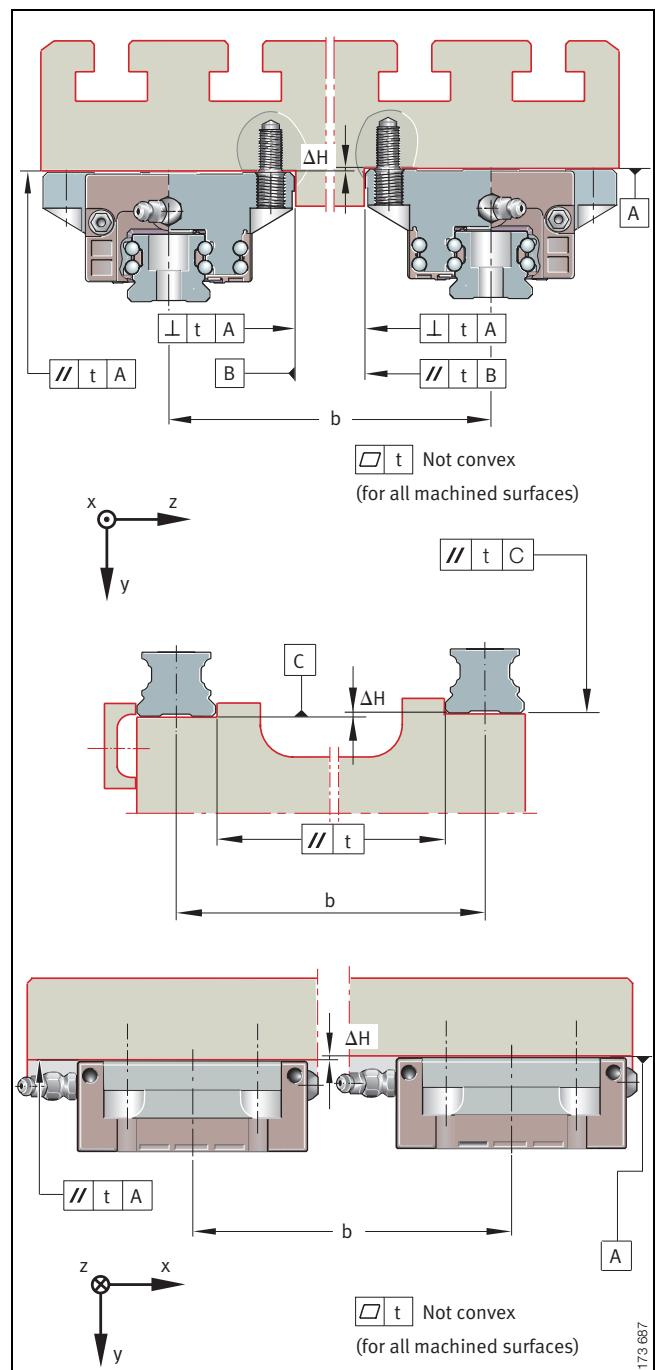

Figure 6 · Tolerances of mounting surfaces and parallelism of mounted guideways
- The tolerances in Figure 6 and Table 5 must be adhered to
The permissible values for  $\Delta H$  (Figure 6) are given by the formula below. If larger deviations are present, please consult the Schaeffler engineering service.
For guideways arranged parallel to each other, the parallelism value  $t$  given in Figure 6 and Table 5 should be adhered to.